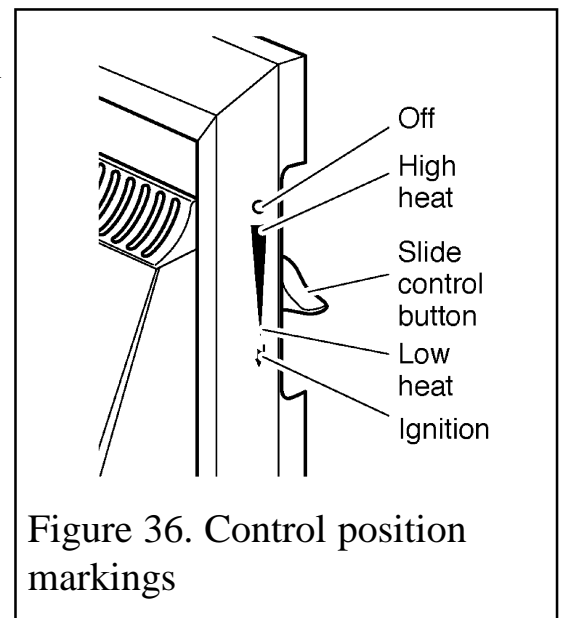

Figure 36. Control position markings
The control position markings on the fascia are shown in figure 36.
1. Gradually slide the button up to increase the burner setting. The burner should be at its maximum setting at the high heat position shown in figure 36. You should feel a check to the button movement at this position.